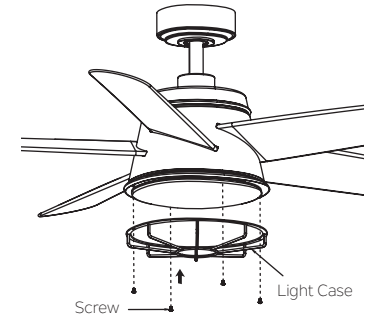

Fig. 23
Step 3. Hold the light case up to the switch housing, align with 4 holes and securely tighten with 4 screws found in the hardware pack. (Fig. 23)